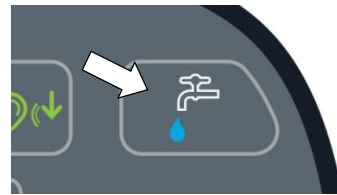

FIG. 135
4. If Lockout mode 2 or 3 was selected, press the Solution Flow button. This will allow you to configure the Zone Settings for the selected supervisor control mode (Figure 135).